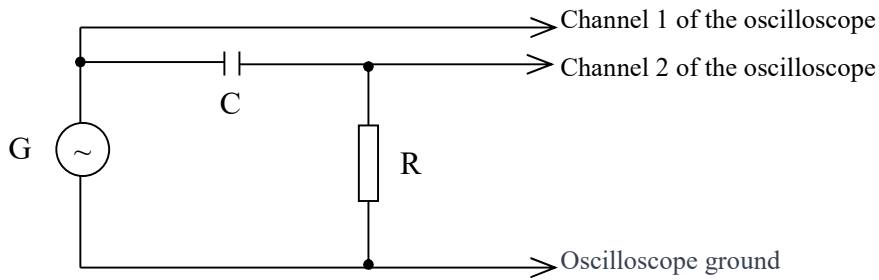

Figure 4
- Assemble the setup shown in Figure 4,
For the same setup as that in Figure 4, determine the phase shift according to Table 4.